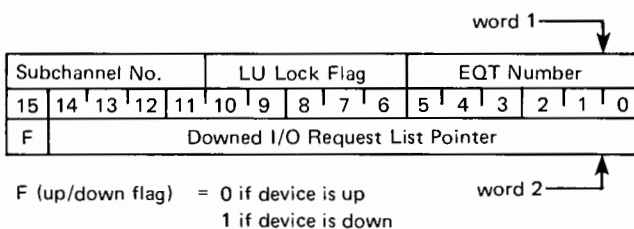

Figure 5-1. Device Reference Table
controller) and the subchannels (if applicable) and also define the physical devices' (LU) status. These numbers are maintained in a two word Device Reference Table (DRT), which is created during system generation, and can be modified by the LU operator request (see Figure 5-1).